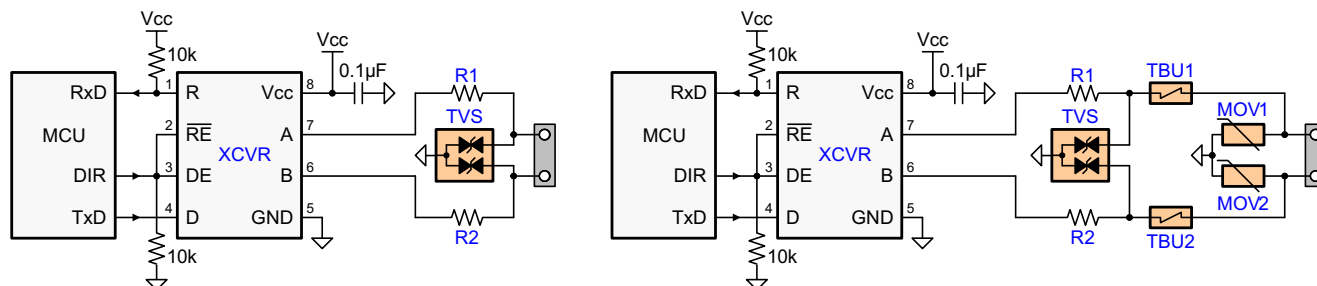

Figure 20. Transient Protections Against ESD, EFT, and Surge Transients
The left circuit shown in Figure 20 provides surge protection of  $\geq 500$ -V transients, while the right protection circuits can withstand surge transients of 5 kV.
While the transient protection is similar to the one in Figure 20 (left circuit), an additional high-voltage capacitor diverts transient energy from the floating RS-485 common further towards Protective Earth (PE) ground. This diversion is necessary as noise transients on the bus are usually referred to Earth potential.